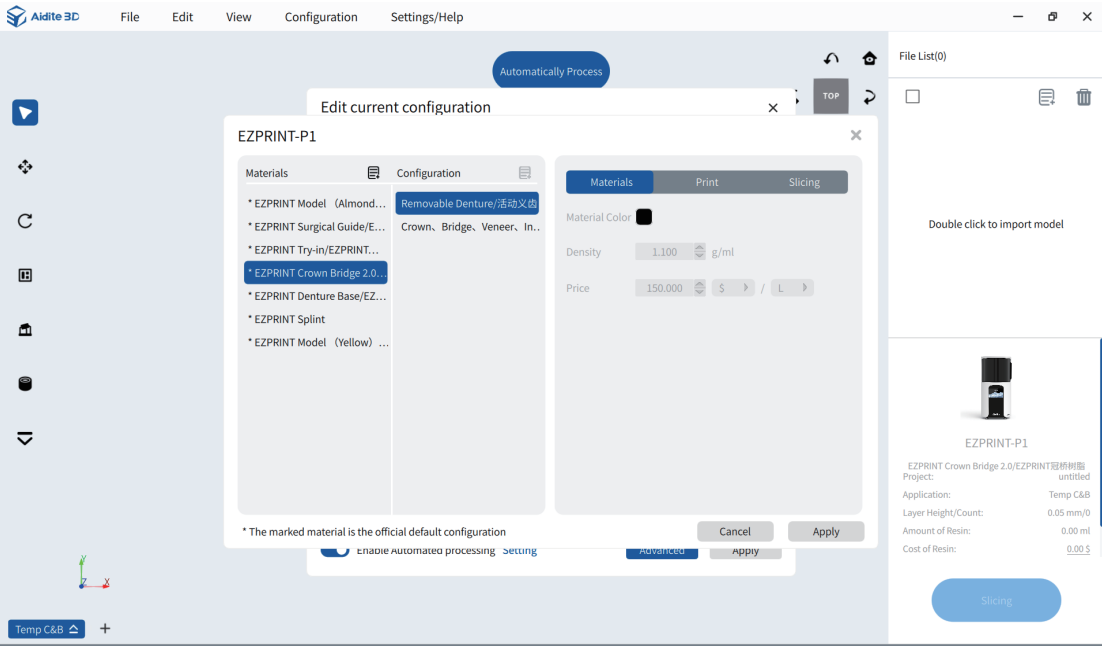

Figure 1
(1) Select the composite ceramic crown/bridge printing parameters (note: full denture teeth parameters select EZPRINT Crown Bridge 2.0 Removable Denture), see Figure 1.